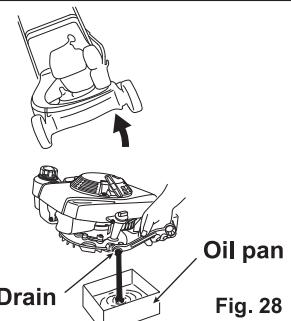

Fig. 28
- Drain the engine oil from the drain port. (See Fig. 28)